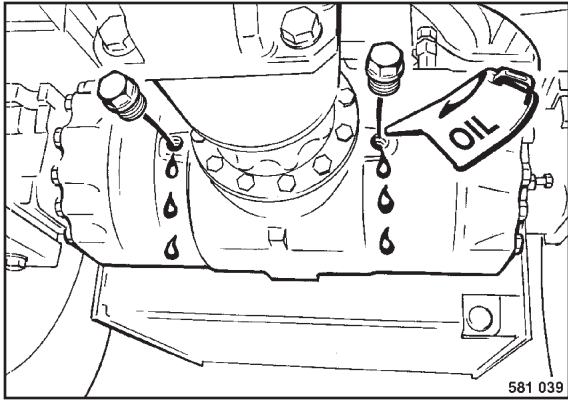

Fig. 111
- Unscrew the oil level inspection plug (Fig. 111) and check the oil level.